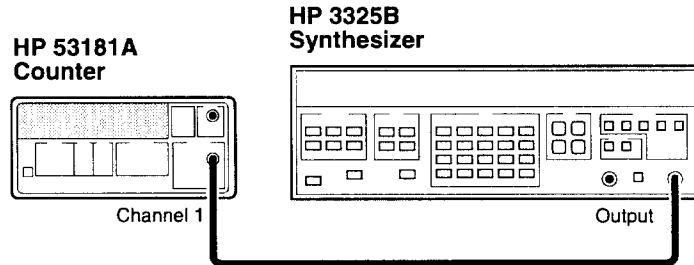

Figure 1-12. Trigger Level Test Setup
- 1 **Connect the output of the HP 3325B to Channel 1 of the Counter as shown in Figure 1-12.**